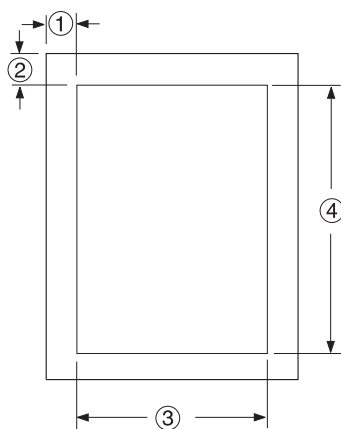

Figure 45. Logical Page Dimensions
**Note:** The parenthetical numbers represent dimensions. Figure 45 on page 67 shows how these dimensions relate to the logical page.